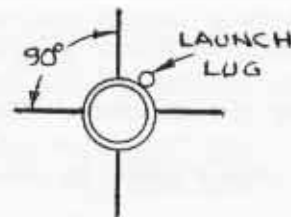

FIGURE 2
2. Cut four tube spacers from either balsa or cardboard. The spacers are 5 1/2" x 1 1/2". Grain should run along the short dimension. Glue these spacers to the BT-50 as shown in Figure 2. They should be flush with the end of the tube. Glue on a launch lug as shown.